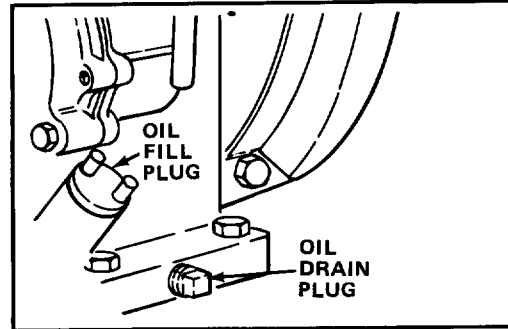

Figure 15
CHANGING OIL (Fig. 15)
3. While holding front of edger up slightly, remove oil fill and drain plugs (Fig. 15). Slowly tip forward and empty all oil into drain pan. Tip up and down several times to ensure oil drains completely.